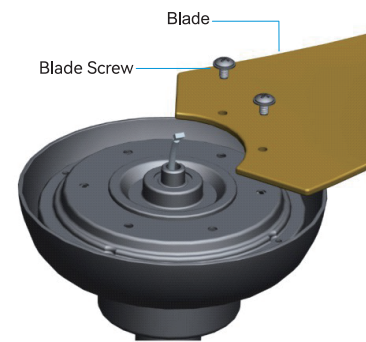

Fig 1.1
1.1 Take out the motor assembly and 3 blades, and assemble the blades. Locate 6 blade attachment screws in the hardware pack. Make sure each blade matches the corresponding place with the motor hub and tighten the blade screws as shown in Fig 1.1.